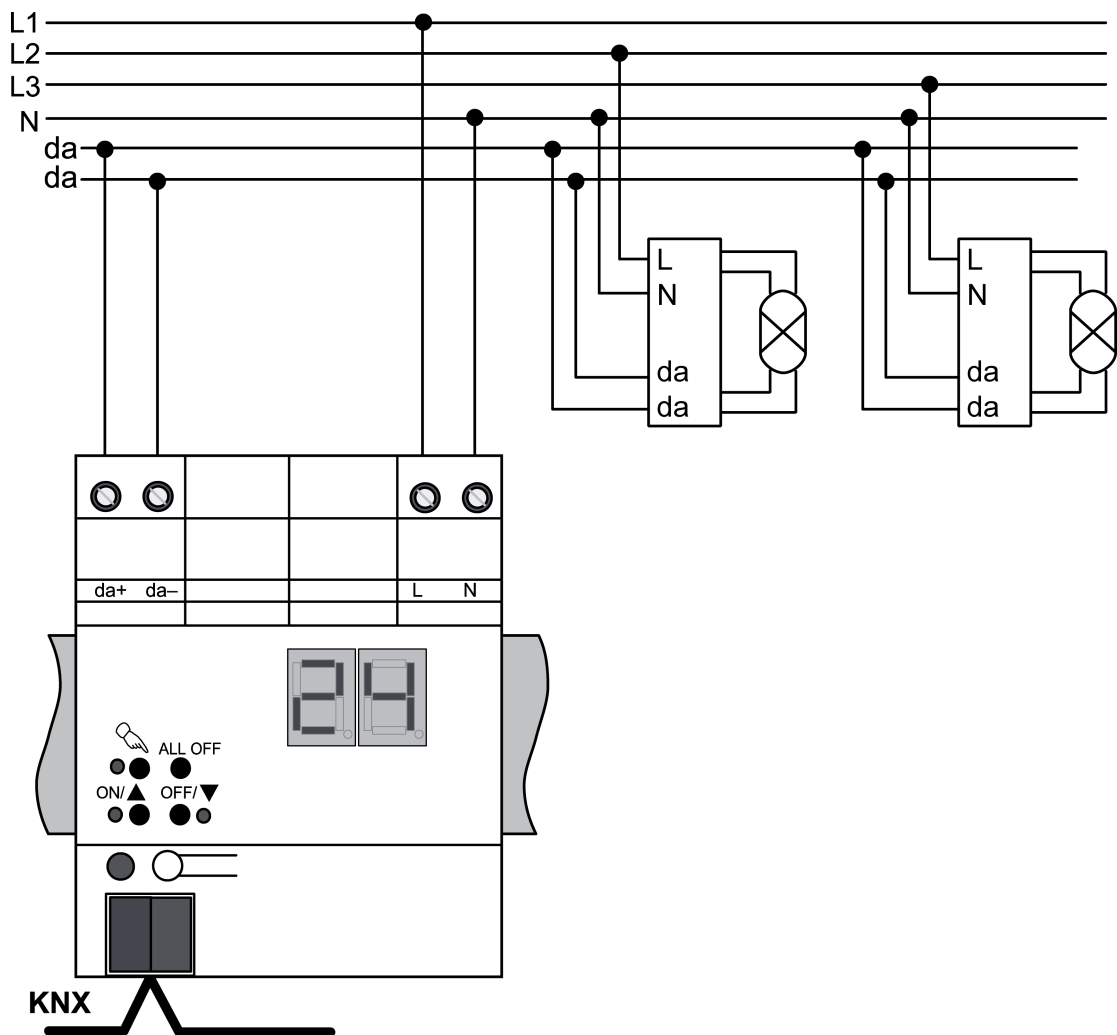

Figure 2
- Connect device as shown in the connection example (Figure 2).